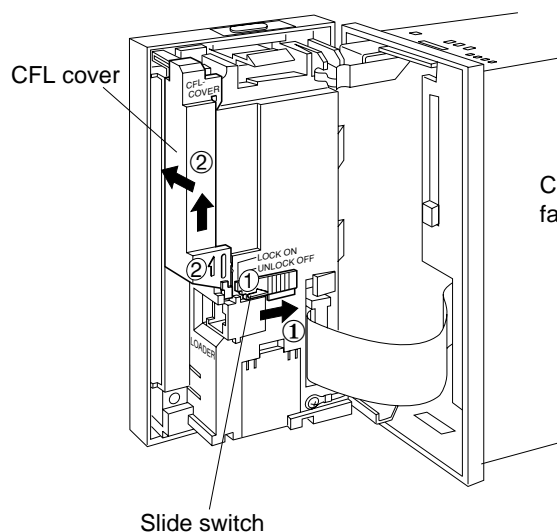
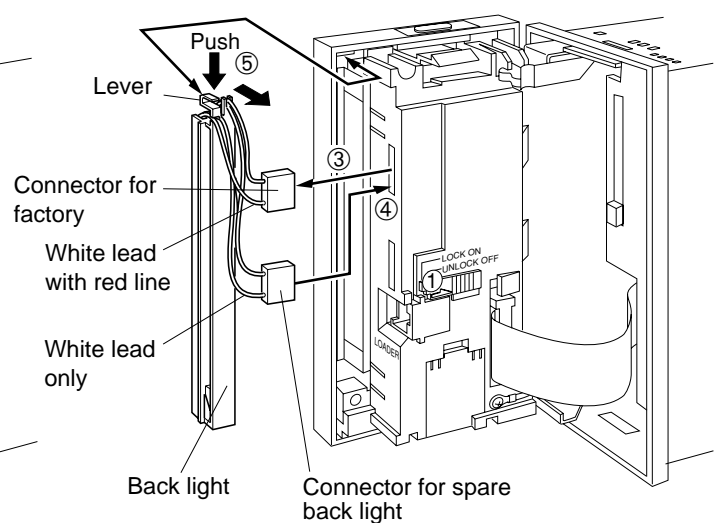

Fig. 12-2-1
Fig. 12-2-2
- 1) In Fig. 12.2.1, operate the slide switch in the direction of arrow → at ① marked on it. (The back light will extinguish.)
- 2) Slide the CFL cover in the direction of arrow ↑ at ② marked on it for removing it.
- 3) In Fig. 12.2.2 disengage the connector (③) where the upper lead is white with red line and engage the connector (④) of the spare back light (only white leads) with the socket. (This replaces the back light with the spare.)
- 5) Operate the slide switch in the direction opposite to → at ①.
- 1) In Fig. 12.2.1, operate the slide switch in the direction of arrow → at ① marked on it.
- 3) In Fig. 12.2.2, disengage the back light connector and pull the back light holding down its lever ⑤. (The back light will come off.)
- 6) Operate the slide switch in the direction opposite to → at ①.